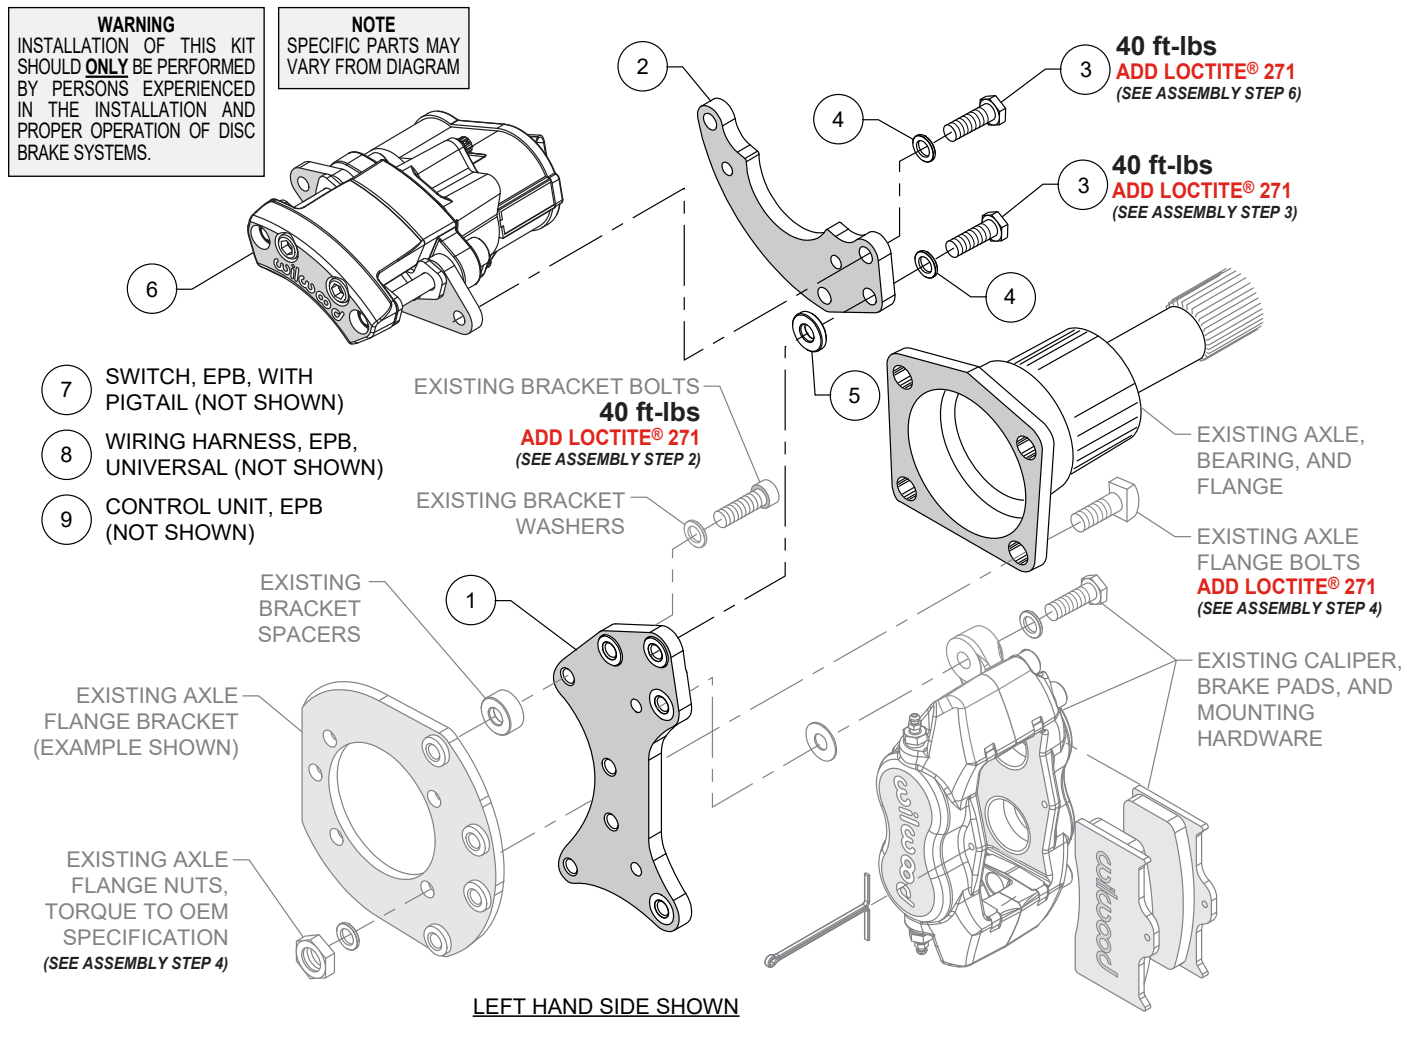

Figure 1. Typical Installation Configuration
NOTE: Numbers in parenthesis refer to the parts list and Figure 1 on the preceding pages.
STEP 2 Orient the new caliper mount bracket (1) and the existing axle flange bracket as shown in Figure 1 and Photo 1, and assemble using saved bolts, washers, spacers, and shims (if any).
NOTE: The spacing between the two brackets must be the same as it was for the old bracket assembly. Apply red *Loctite*® 271 to the bolt threads and torque to value shown in Figure 1.
STEP 3 Attach the EPB flat caliper bracket (2) to the caliper mount bracket (1) using bolts (3), washers (4), and spacers (5) as shown in Figure 1 and Photo 1. Apply red *Loctite*® 271 to the bolt threads and torque to value shown in Figure 1.
STEP 4 Orient the bracket assembly as shown in Figure 1, and re-mount it to the axle housing flange using the saved OEM bolts and nuts, Figure 1. Apply red *Loctite*® 271 to the bolt threads and torque to manufacturer's specification.
STEP 6 Mount the electric parking brake caliper (6) onto the EPB caliper mounting flat bracket (2) using bolts (3) and washers (4), as shown in Figure 1 and Photo 2. Apply red *Loctite*® 271 to bolt threads, and torque to value shown in Figure 1.